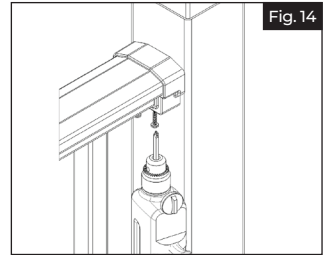

Fig. 14
- d. While tightly squeezing the bracket cover closed, pre-drill using a $\frac{5}{32}$ " drill bit through the two holes underneath. Then, drive two #10 x 1" square drive screws through the cover, metal bracket and into the top rail (Fig 14).